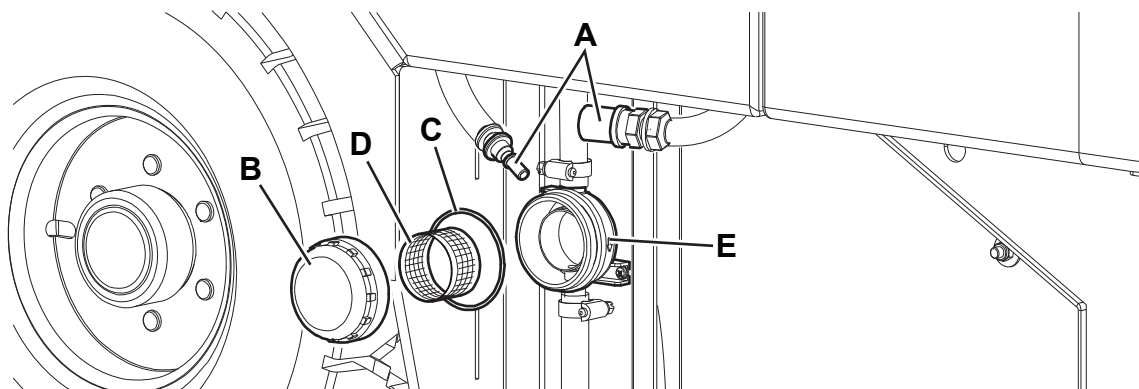

Figure 9
1. Drive the machine on a level floor, engage the parking brake and turn the ignition key (57) to "O".
2. Disengage the quick coupling (A, Fig. 9) from the tank hoses.
3. Remove the left panel (2) to reach the water filter (30).
4. Remove the transparent cover (B) with the gasket (C), then remove the filter strainer (D). Clean and install them on the support (E).